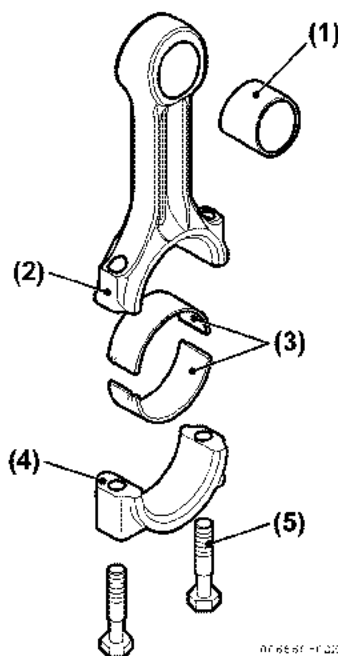

**Figure 5-93**
- The oil control ring includes a coil expander. The coil expander joint should be opposite (180°) the oil ring gap (**Figure 5-93**).